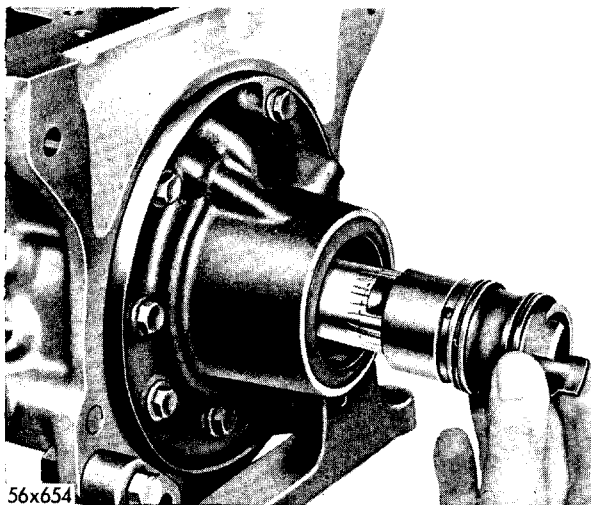
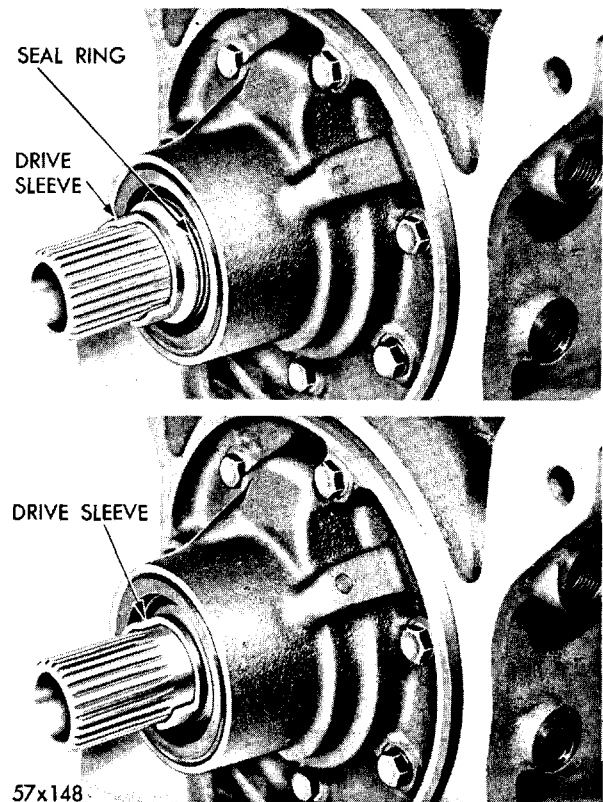

Fig. 80—Installing Front Oil Pump Drive Sleeve
Fig. 81—Front Pump Drive Sleeve Installation — Incorrect Installation (Top View) — Correct Installation (Bottom View)
(3) Lubricate front pump drive sleeve. With a slight rotating back and forth motion install sleeve (smooth bearing surface first) being sure the drive lugs engage in the oil pump inner rotor and can be rotated freely, Fig. 80. **The main body of driving sleeve should be flush with oil pump housing when properly installed and the neoprene seal ring will not be visible. If rotors do not turn freely, remove the pump and check for foreign matter between pump rotors and housing. Fig. 81.**
(4) Install the torque converter control valve spring, retainer and gasket and tighten to 35-40 foot-pounds torque.
(5) Reinstall regulator valve spring, sleeve, cup, gasket and retainer (with adjusting screw and lock nut installed) and torque to 45-50 foot-pounds.